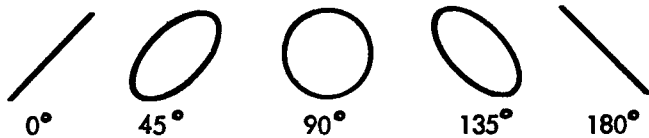

Fig. 3
**LISSAJOUS PATTERNS:** Another type of fundamental pattern is obtained when both the vertical and horizontal deflection voltages are sine waves that are related in frequency as follows: one frequency is a whole number of times larger than the other; one frequency is a simple fraction of the other. When one or the other of these conditions is fulfilled, stationary closed-loop patterns are obtained. These patterns are called Lissajous figures after the 19th century French Scientist. They are particularly useful in determining the frequency ratio between two sine wave signals. If the frequency of one signal is known, the frequency of the other signal can be easily determined from the frequency ratio. Usually the known signal is applied to the horizontal channel and the unknown signal to the vertical channel. The shape of the pattern changes with the phase relationship between the known and unknown signals. For example, all the patterns shown in Fig. 3 (and those intermediate) are possible with a frequency ratio of 1:1 if the phase differences indicated exist.